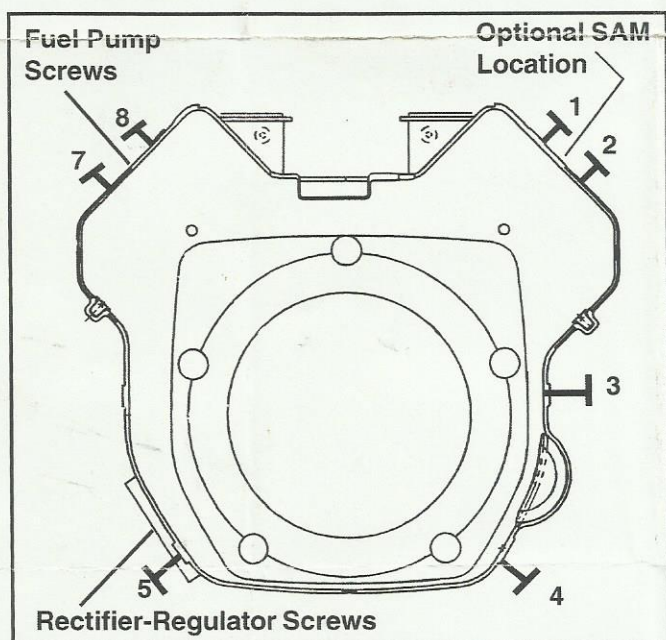

Figure 1. Blower Housing Hardware Positions.
3. Remove the two fuel pump mounting screws. See Figure 1.